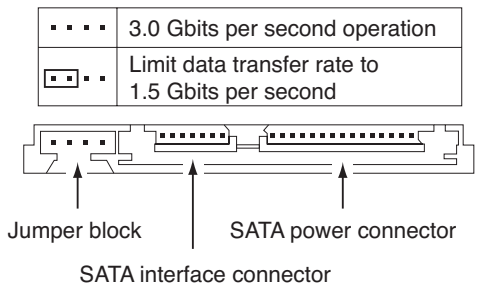

Figure 5. Serial ATA connectors
- Install a jumper as shown in Figure 5 below to limit the data transfer rate to 1.5 Gbits per second (and leave the drive connected to the SATA-equipped motherboard or host adapter that doesn't support autonegotiation) or
- Install a SATA host adapter that supports autonegotiation, leave the drive jumper block set to “Normal operation” (see Figure 5 below), and connect the drive to that adapter. This option has the benefit of not limiting the drive to a 1.5 Gbits/sec transfer rate.